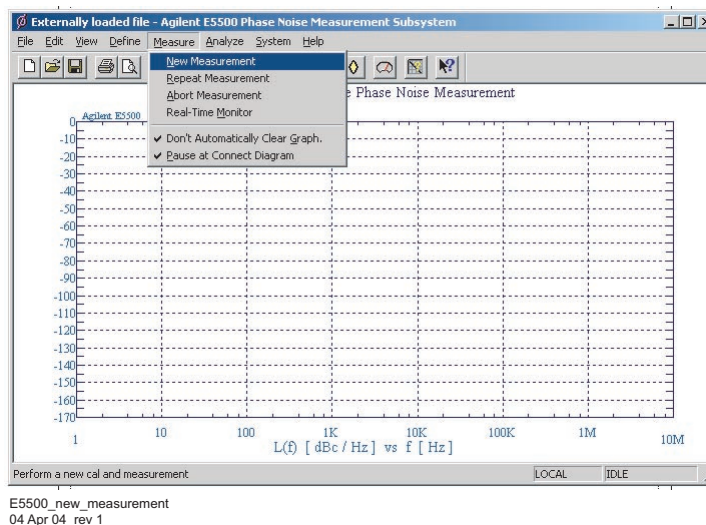

Figure 54 Selecting a new measurement
- 1 From the **Measurement** menu, choose **New Measurement**. See Figure 54.